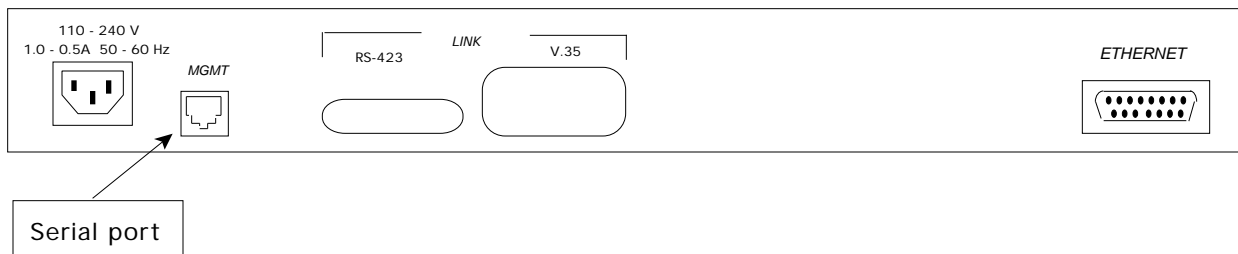
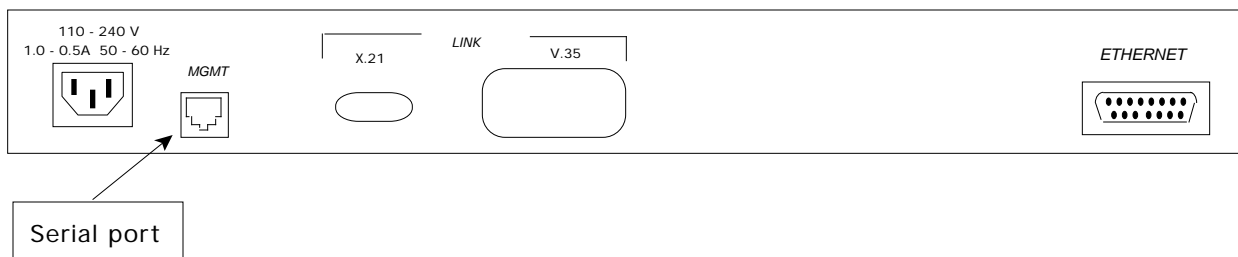

Figure 2-2. MAXserver 6025, Rear View with an RS-423 Interface
Figure 2-3. MAXserver 6025, Rear View with an X.21 Interface
Connect the Ethernet transceiver cable to the Ethernet connector on the back of the MAXserver 6025. Figure 2-2 shows a 6025 with an RS-423 interface and Figure 2-3 shows a 6025 with an X.21 interface. To connect an Ethernet cable, plug the cable's male connector into the 15-pin female socket on the back of the unit and fasten the slide latch. Appendix B includes a figure which shows the signal assignments of the standard 15-pin connector, referred to as an AUI connector.
You can connect the V.35 cable, RS-423 cable, or the X.21 cable to the WAN port on a MAXserver 6025. The unit automatically detects which type of cable you have connected. Each port provides both a 34-pin V.35 connector and either a 25-pin RS-423 connector which is also RS-232 compatible, or an X.21 connector. Figures 2-2 and 2-3 show the locations of the connectors. Figure 2-5 shows the female connector signal assignments of the V.35 interface. Figure 2-6 shows the connector signal assignments of the RS-423 interface. Figure 2-7 shows the connector signal assignments of the X.21 Interface.
- Plug the AC line cord into the AC power receptacle on the rear of the MAXserver 6025. This cord is included with the 6025. Figures 2-2 and 2-3 show the location of the power receptacle.